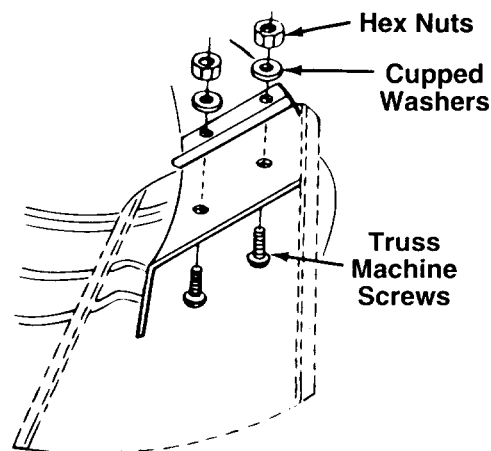

FIGURE 3
2. Place the chute deflector in position as shown in figure 3. Secure with hex machine screws, lockwashers and hex jam nut.